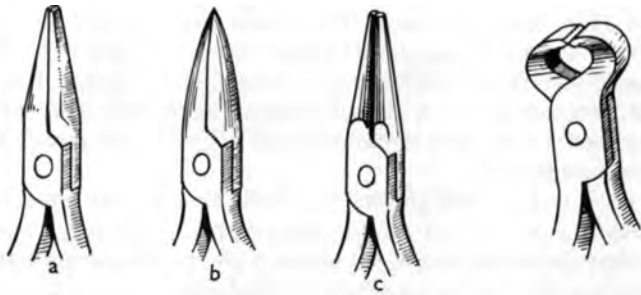

Fig. 8. Pliers, (a) Flat-nose (b) Snipe-nose
**Pliers** (Fig. 8). If the serrations on the inner face of the pliers are too coarse, the tops of the serrations can be removed by filing.